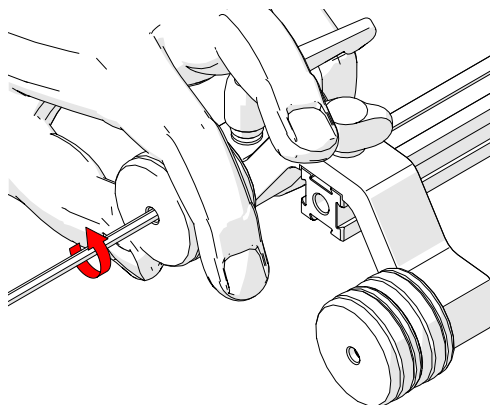

Fig. 36 - Tighten with 3mm hex driver
4. Hold steady the magnetic wheel closest to the scanner body, insert the 3mm hex driver into the axle and tighten the additional wheel (*Fig. 36*).